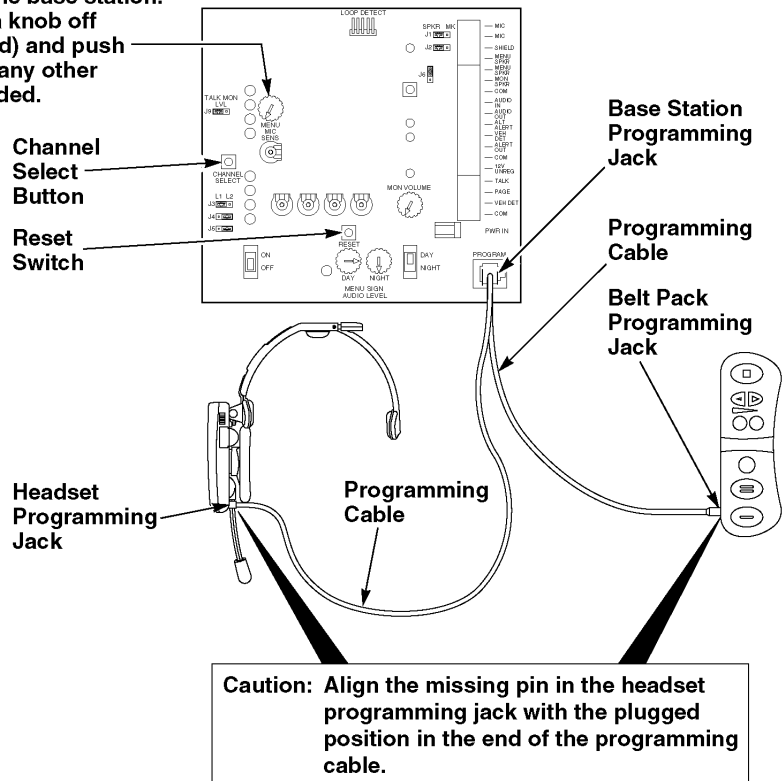

Figure 22.
4. With the headset turned ON, plug the flat end of the programming cable into the headset programming jack. See Figure 22.
5. Plug the other end of the programming cable into the base station programming jack. See Figure 22.